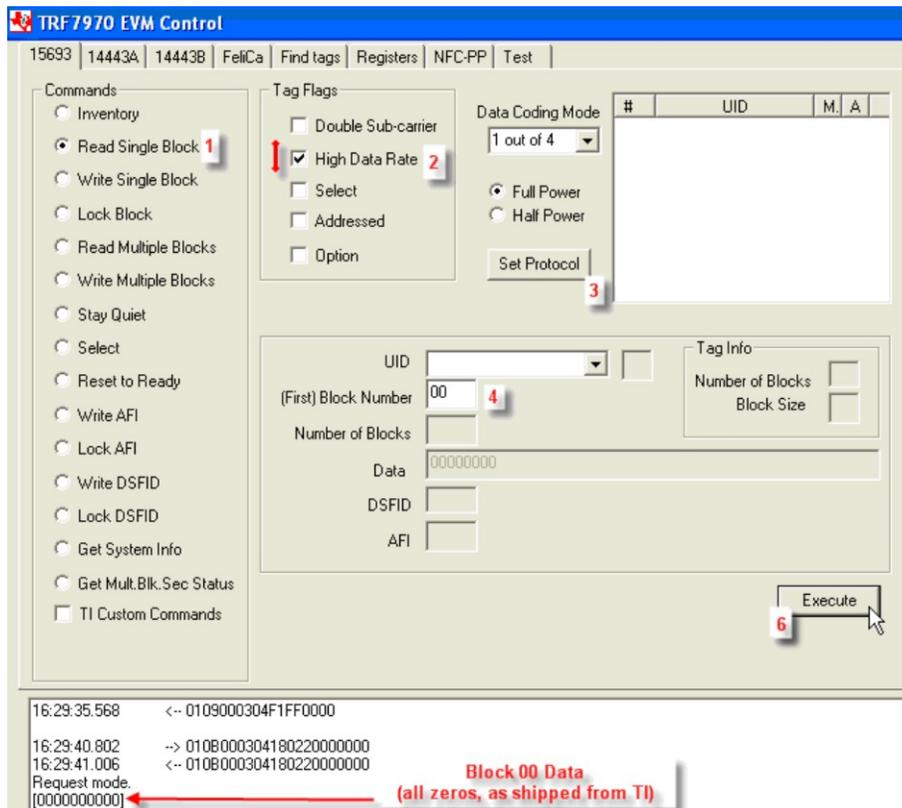

Figure 7. Read Single Block Command Example
2. Select Tag Flags accordingly (see Figure 7 for one example).